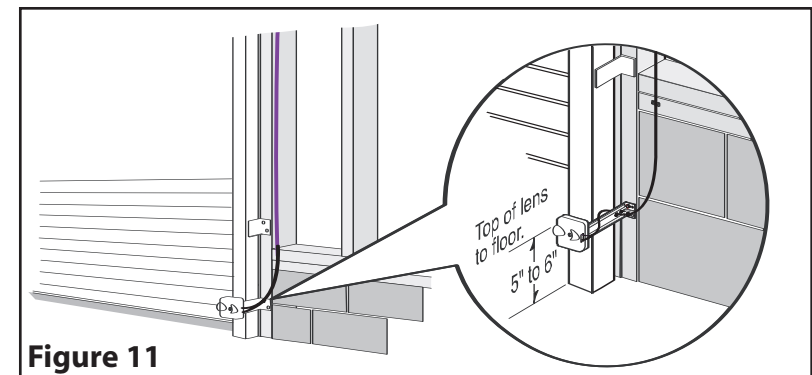

Figure 11
- Determine location for mounting. They do not need to be directly adjacent to the door but must be somewhere along the wall where there will be an unobstructed line between them. **Fig 11**.